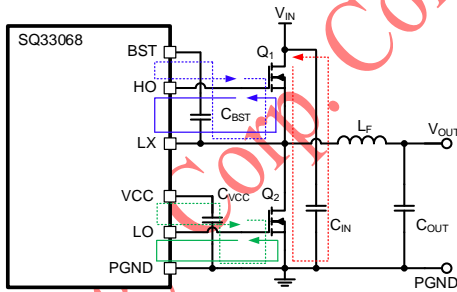

Fig 18. Switching Loop in Buck
- (e) The circuit loop of all switching circuit should be kept as small as possible to decrease disturbance as shown in Fig. 18: High-side & Low-side power loop, High-side & Low-side driver circuit loop.